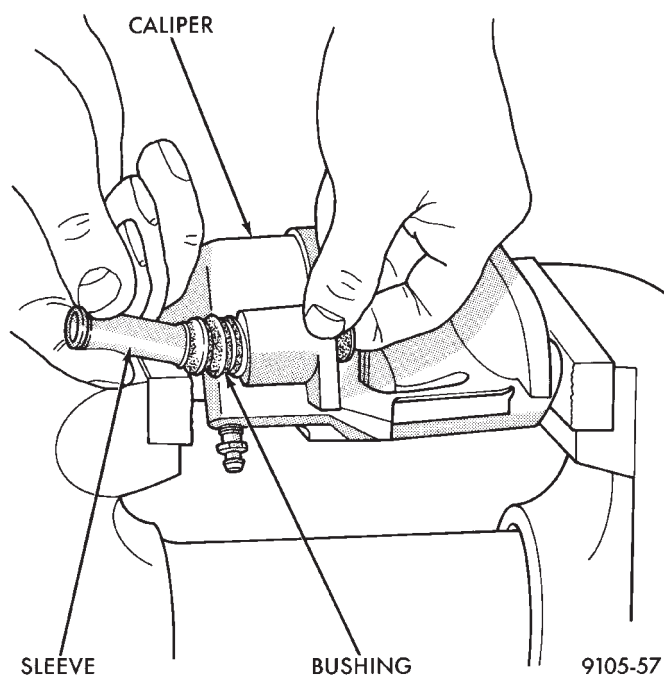

**Fig. 153 Removing Inner Sleeve From Bushing**
(1) Remove caliper from brake rotor (See Brake Shoe Removal). Hang caliper assembly on a wire hook away from the brake rotor.
(2) Push out and then pull the steel sleeve from the inside of the bushing using your fingers as shown in (Fig. 153).